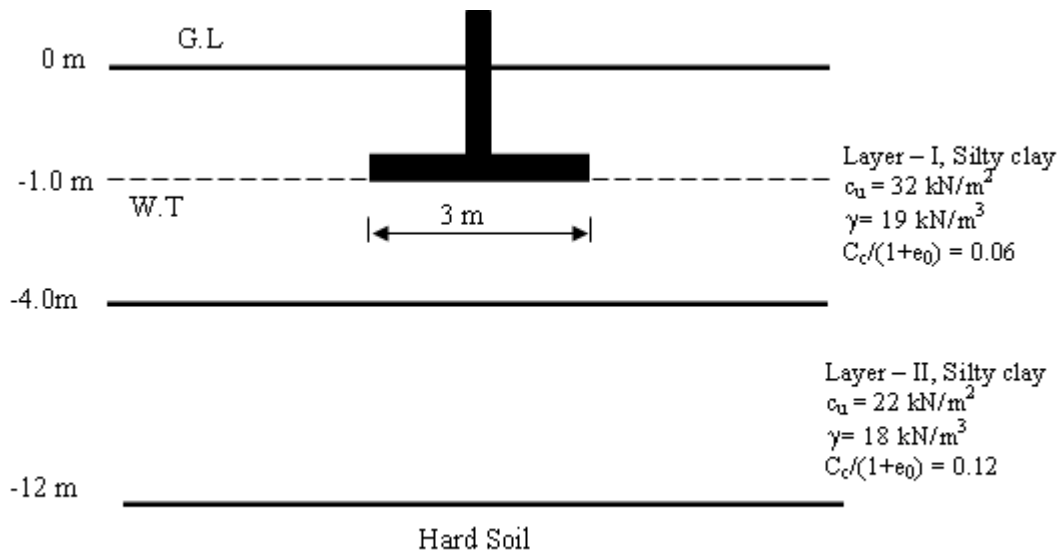

Fig. 2
12. Calculate the ultimate bearing capacity of a rectangular footing 2 m x 4 m founded at a depth of 1.5m below ground surface. The load on the footing acts at an angle of 15° to the vertical and is eccentric in the direction of width (B) by 15 cm. The unit weight of the soil is 18 kN/m^3 . $c' = 15 \text{ kN/m}^2$ and $\phi' = 38^\circ$. Neglect the effect of water table location. Use Meyerhof recommendations. [Answer: 2962.5 kN/m^2]
13. Design a strip foundation of width 3m. The soil data are given in Fig. 2. The foundation is carrying 1000 kN load. The factor of safety is taken as 2.5 against shear failure. Take pore water correction factor as 0.75. Use Skempton's bearing capacity equation for clay soil. Take $E = 600 c_u$ and $\mu = 0.5$. The foundation is located at a depth of 1 m below ground surface.